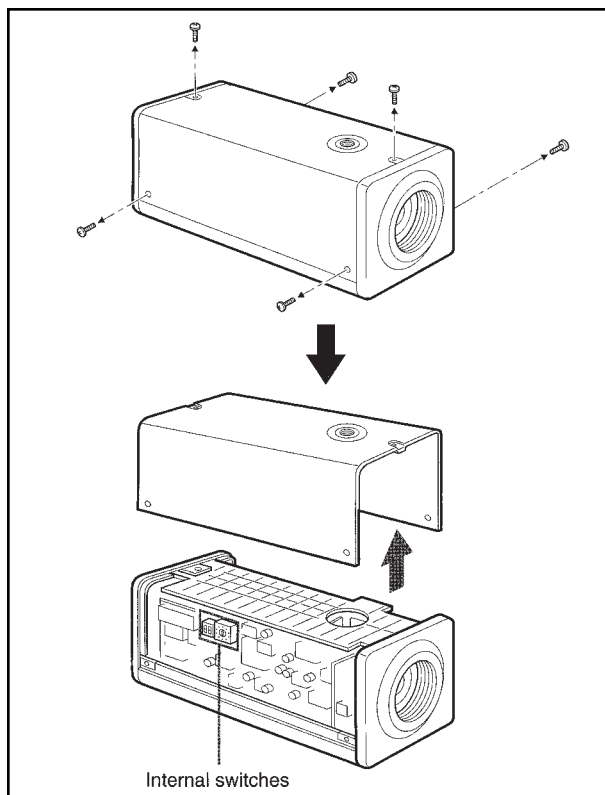

Figure 2. Removal of Camera Cover
1. Remove the six (6) Phillips screws that hold the upper cover to the camera body and remove the cover (refer to Figure 2).
2. Set the internal switches according to the conditions in which the camera will be used (refer to Figures 2 and 3).